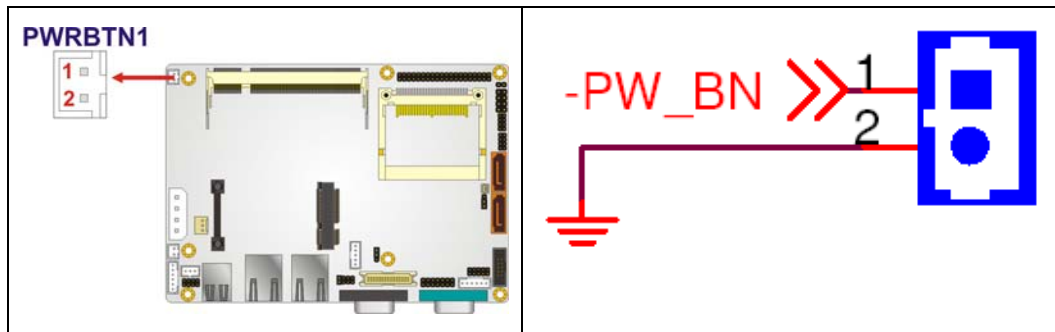

Figure 3-8: Power Button Connector Location
- CN Location:** See Figure 3-8